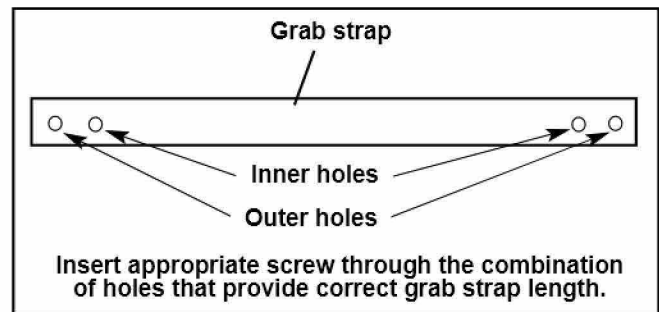
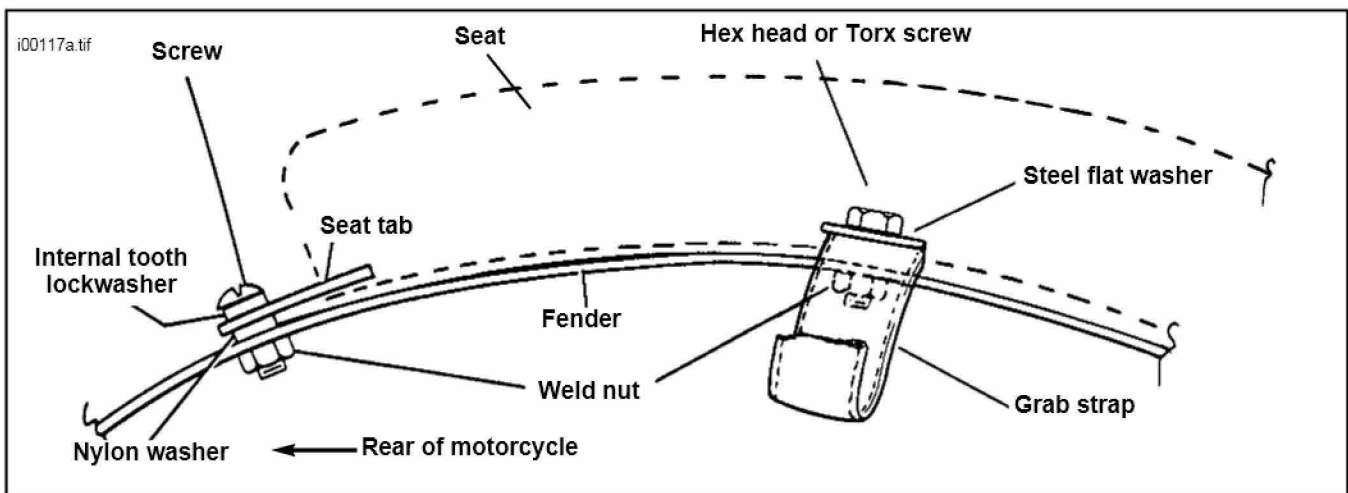

Figure 2. Grab Strap Holes
Figure 1. Hardware, Seat Bracket and Grab Strap Assembly
2. See Figure 1. Remove and save screw, and plastic washer securing seat to fender. Remove seat.
4. See Figure 1. Locate grab strap, screw (selected above) and flat washer from kit. Insert screw through washer. See Figure 2. Insert screw with washer through appropriate holes in grab strap.
5. See Figure 1. Insert screw into hole in fender and torque to 3 - 5 ft-lbs.
6. See Figure 1. Slip rear section of seat through grab strap. Bring seat forward and engage clip on bottom front of seat into seat bracket on frame. Secure seat to fender using original screw and plastic washer removed in Step 2. (Install washer between seat bracket and fender.) Tighten screw securely.